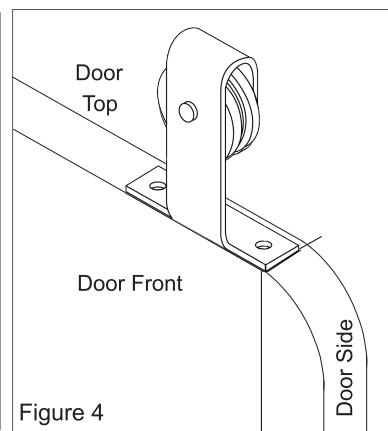

Figure 4
- If the door has a curved corner set the hanger flat on the top (Figure 4).